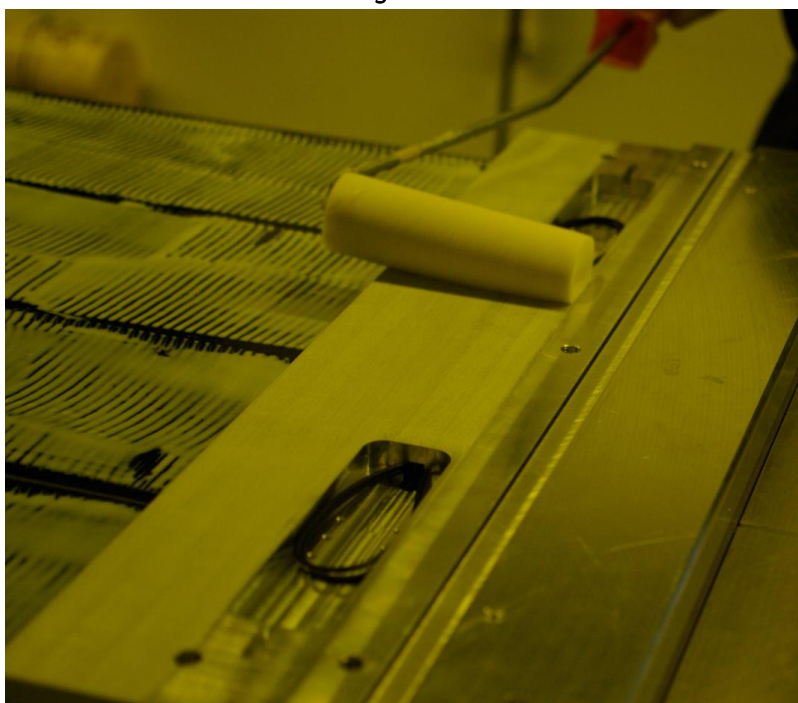

Figure 46 Glue on endplug “HE_LHCB_SCIFI_PAN_908200_A_0__EndPlugLI-LI-BAR”
5.1.4.10 With the roller apply glue to the gluing surface of the endplug “HE_LHCB_SCIFI_PAN_908200_A_0__EndPlugLI-LI-BAR” as shown in Figure 46